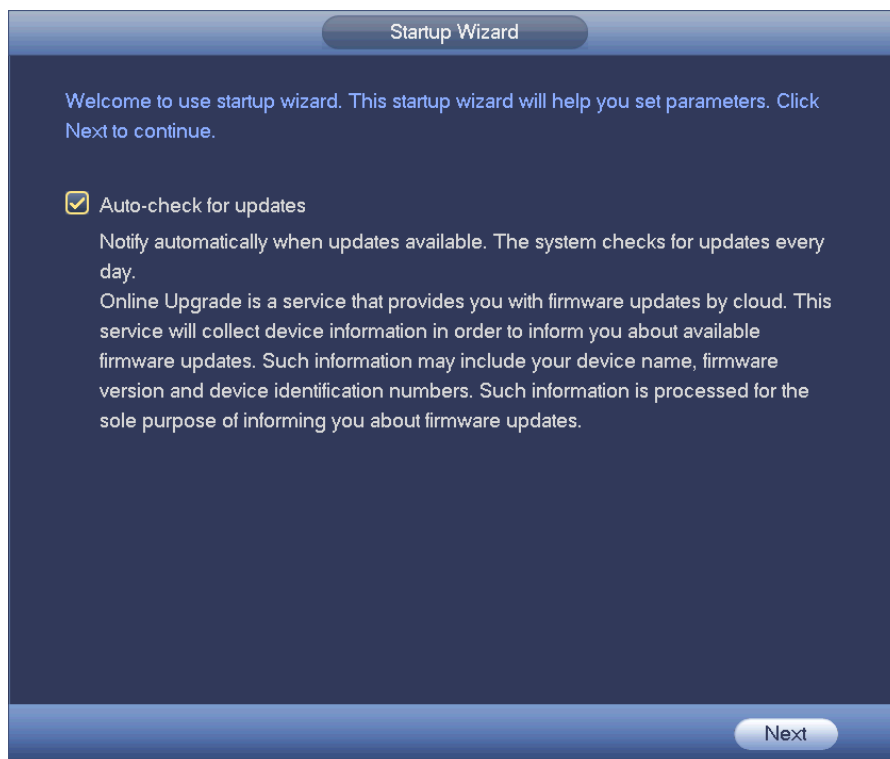

Figure 2-13
- Startup wizard: After initialize the device, system goes to the startup wizard interface. See Figure 2-13. Please refer to the user's manual for detailed startup wizard operation information.